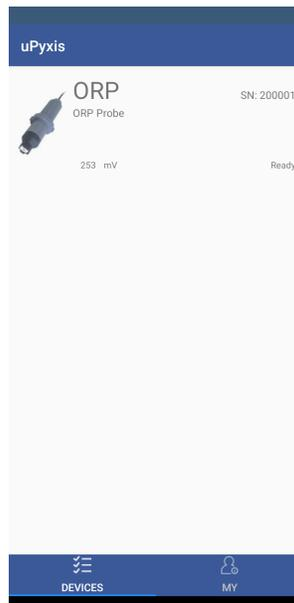

Figure 5.
3. If the connection is successful, the ST-711SS and its Serial Number (SN) will be displayed (Figure 5).